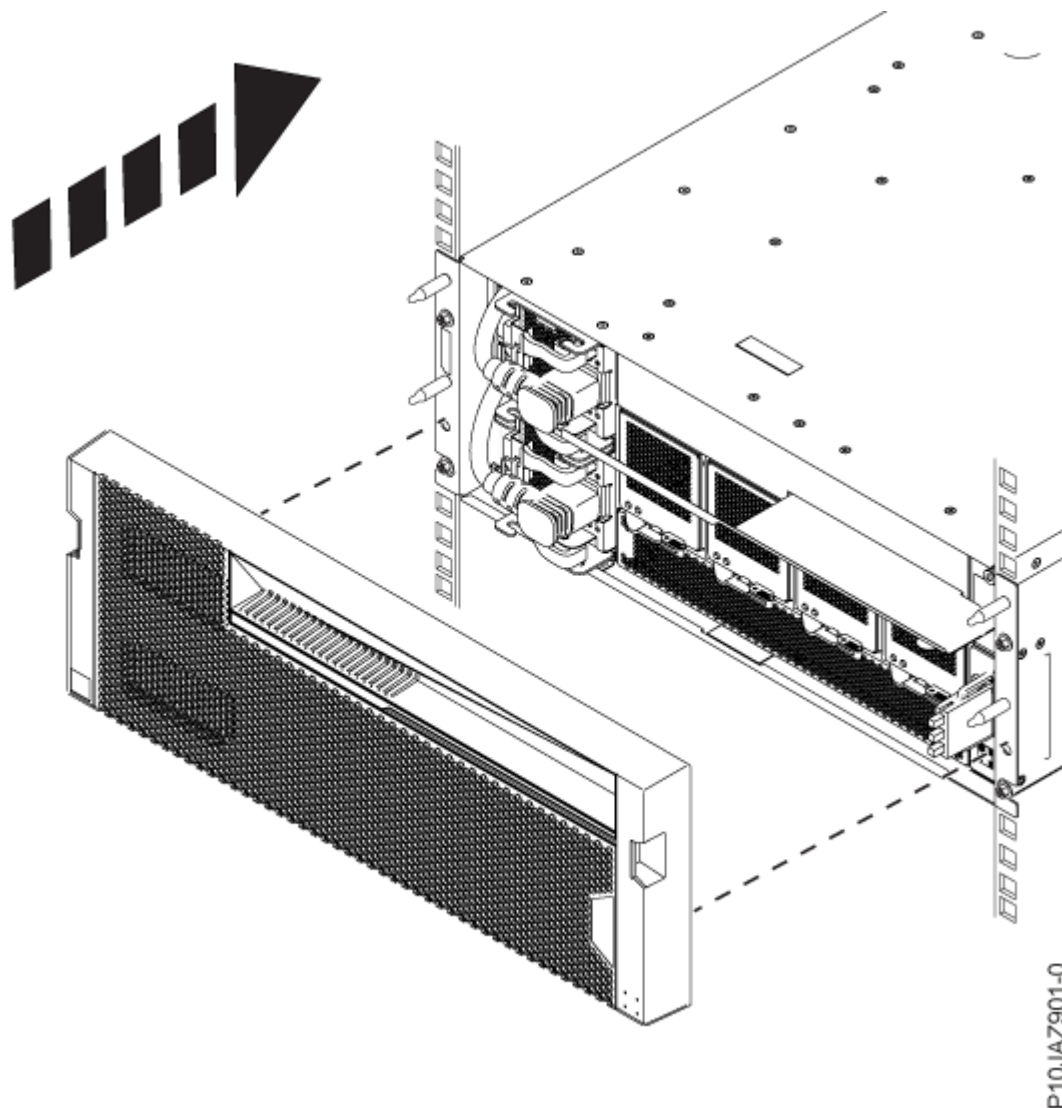

Figure 10. Installing the cover
- a) Align the cover **(A)** with the four pins on the front of the drawer **(B)** and press it into place, as shown in Figure 10 on page 13.